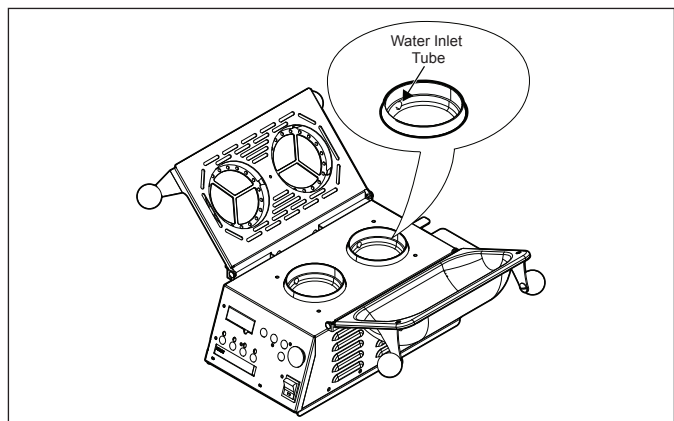

Figure 7. Water Inlet Tube
1. With the unit cool, insert a straightened paper clip into the Water Inlet Tube opening no more than 1 1/2 inches deep (Figure 7).